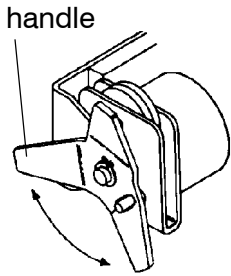

Figure 1-4.
- 30 – 150 amp. C–design* See Figure 1-4.